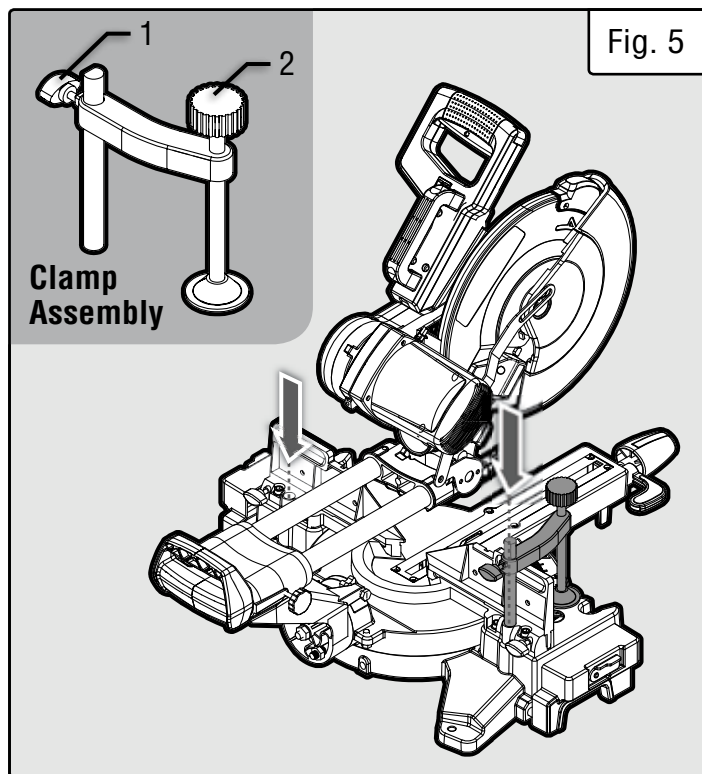

Fig. 5
1. Locate the hole for the clamp on the left or right side of the miter saw behind the fence (Fig. 5 - arrows). Insert the clamp assembly (Fig. 5) into the slot.
2. Secure the clamp into place by tightening the clamp lock screw (Fig. 5 - 1).
3. Rotate the clamp knob (Fig. 5 - 2) to move it up or down as needed to securing the workpiece. Check that the workpiece is secure and does not wobble before cutting.